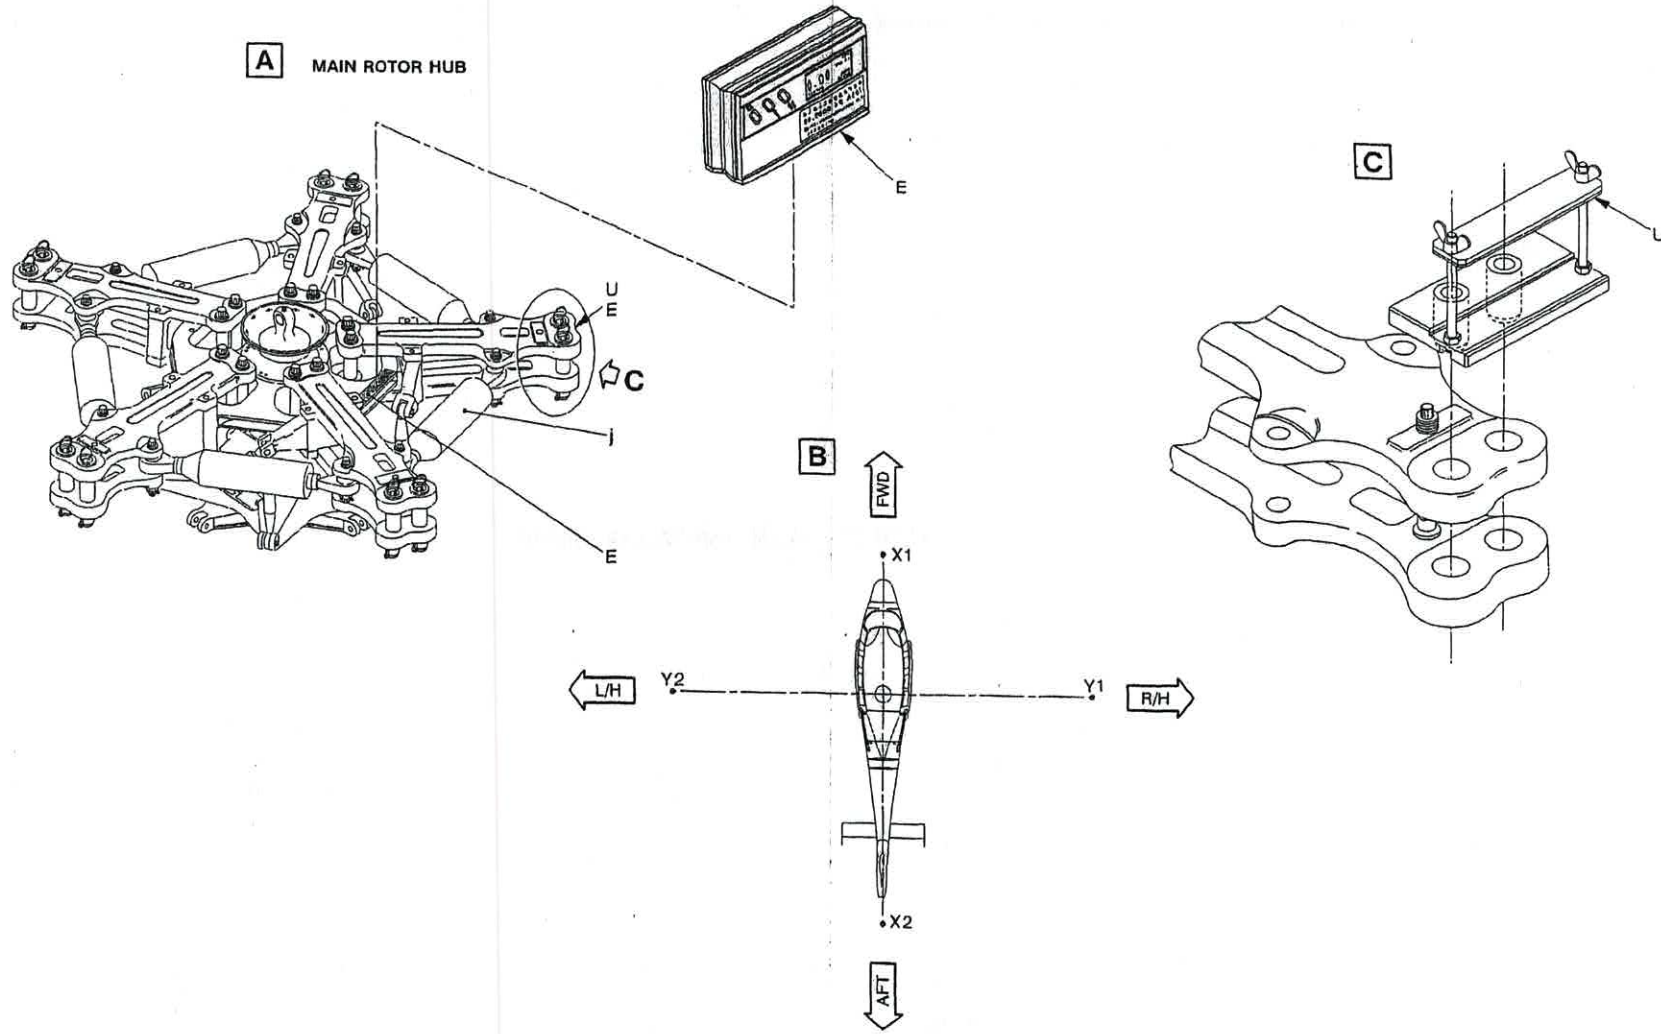

Figure 1
- . Clinometer (E) located on cabin floor along X.
- Locate clinometer (E) as per Figure 1 detail A at yellow damper (j).
*The operator must always face the clinometer when reading values. Keep clinometer (E) in position during entire vertical positioning of the mast.*
- Rotate rotor to set clinometer (E) in position X1 as per Figure 1 detail B.
- Adjust side jacks in order to obtain 0° reading on clinometer (E).
- Rotate rotor to set clinometer (E) in position X2 as per Figure 1 detail B.
- Rotate rotor to set clinometer (E) in position Y1 as per Figure 1 detail B.
- Adjust aft jack in order to obtain 0° reading on clinometer (E).
- Rotate rotor to set clinometer (E) in position Y2 as per Figure 1 detail B.
- Rotate rotor to ensure that in positions X1, X2, the reading difference on clinometer (E) is comprised within +/- 0° 5' tolerance.
- Rotate rotor to ensure that in positions Y1, Y2, the reading difference on clinometer (E) is comprised within +/- 0° 5' tolerance.
### 2.B.2.b. Low pitch stop rigging post-MOD 0767B62 (Figures 1 and 2)
- Locate tooling (U) on yellow sleeve as per Figure 1 detail C.
- Locate clinometer (E) on tooling (U) and secure.